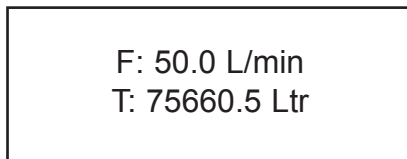

Figure b-4: GFM2 Main Screen
After 6 minutes of the initial powering of the GFM2 transducer, the status LED will emit a constant GREEN light (normal operation, ready to measure). For GFM2 with LCD option, the screen will reflect flow and totalizer reading. (see Figure b-4).
4. Release maintenance push button after 6 seconds. For GFM2 with optional LCD, when GFM2 Main Screen appears (see Figure b-4).